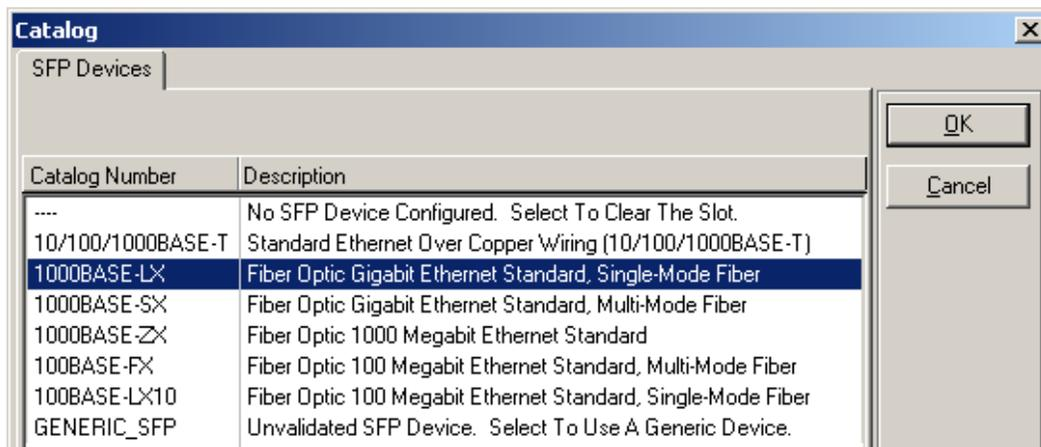

Figure 43: Select SFP Device from Catalog
**SFP Cage 1 / 2 / 3 / 4:** If the PNC001 module will use plug-in Small Form-factor Pluggable devices in Port 3 and/or Port 4, specify the SFP devices in the appropriate field(s). On the *Settings* tab, right-click in the Values field for the port, and select *Data Entry* tool to open the Catalog window. In the Catalog window, select the type of SFP device for the port, as shown in Figure 43, and click OK. If the device is not listed, choose *GENERIC\_SFP* to add it to the configuration.